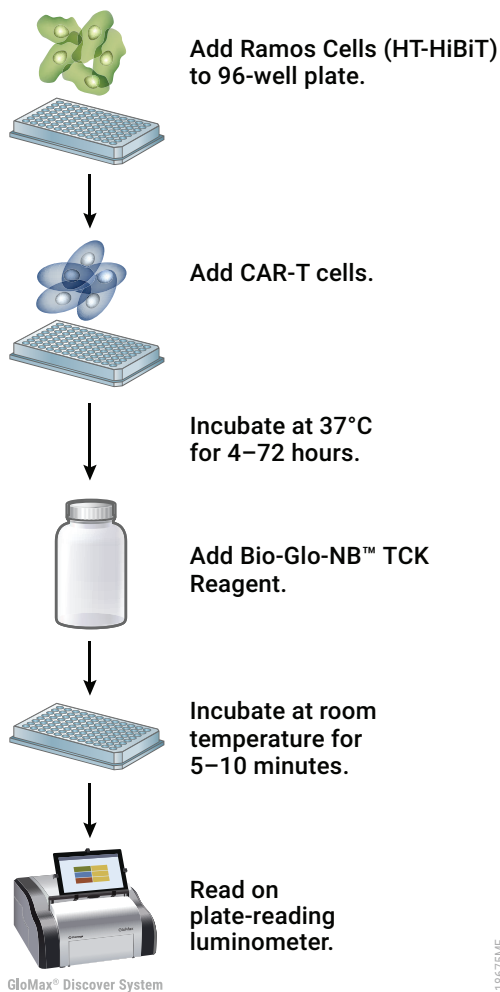

Figure 12. Schematic protocol for CAR-T assay using Ramos Cells (HT-HiBiT).
This procedure illustrates the use of Ramos Cells (HT-HiBiT) to test CAR-T effector cells against a reference sample in a single cytotoxicity assay (Figure 12). Each test and reference CAR-T is assayed in triplicate, in an eight-point effector-to-target (E:T) ratio dilution series, in a single 96-well assay plate using the inner 60 wells. Other experimental and plate layouts are possible but may require further optimization.
3. Using a multichannel pipette, add 40µl of the appropriate CAR-T cells dilution to wells B3–G10 of the assay plates according to the plate layout in Figure 12. Add 40µl of CAR-T assay buffer to MR and SR control wells (B2–G2 and B11–G11, respectively).